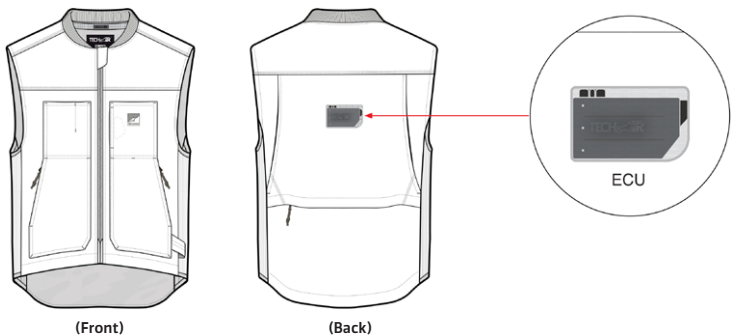

Figure 1 – Sensor Location
The System consists of a vest with an integrated Airbag Electronic Control Unit (with built-in sensors) and a LED Display (2) (Figure 1). The Airbag Electronic Control Unit contains 1 tri-axial accelerometer and 1 tri-axial gyroscope (also referred to as a sensor cluster). These sensors monitor the user's body for shocks or unexpected movements. In the event the user's body is subject to a high and/or sudden amount of energy, the System will deploy. This may occur when the motorcycle is involved in an accident, such as when the motorcycle collides with another vehicle or with an obstacle, when the rider loses control or when the rider falls off the motorcycle.